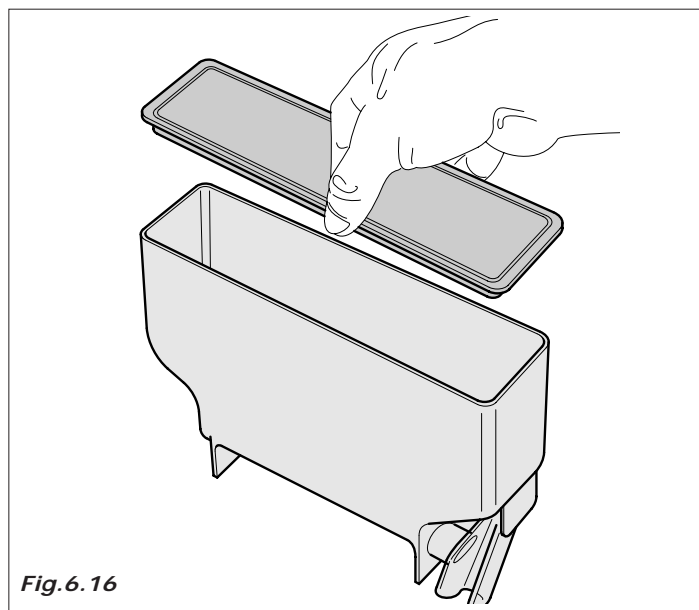

Fig. 6.16
- remove the lids from the product containers covers and product chutes (Fig.6.16). Dip all in the solution previously prepared